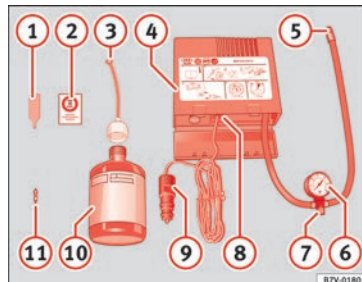

Fig. 83 Standard representation: contents of the anti-puncture kit.
»» Fig. 83:
Screw the inflator tube » Fig. 83 ⑤ again and check the pressure on the gauge ⑥.